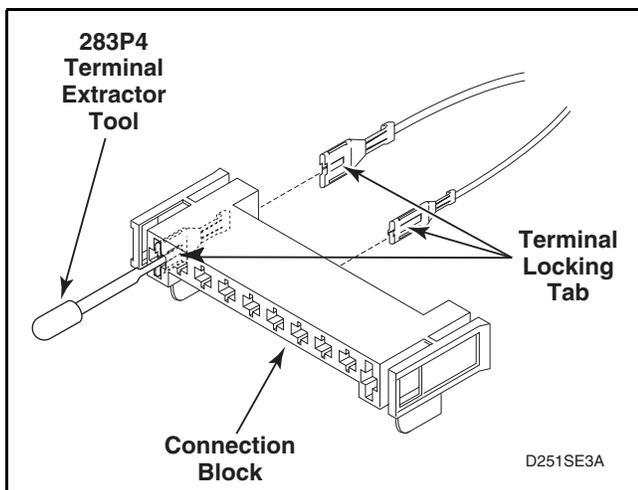

Figure 30
- (1) Insert the tool into the block on the back of the terminal being removed. Refer to *Figure 30*.
- (2) Apply tool pressure to compress the terminal locking tab on terminal and force the terminal and wire out back side of connection block. Refer to *Figure 30*.